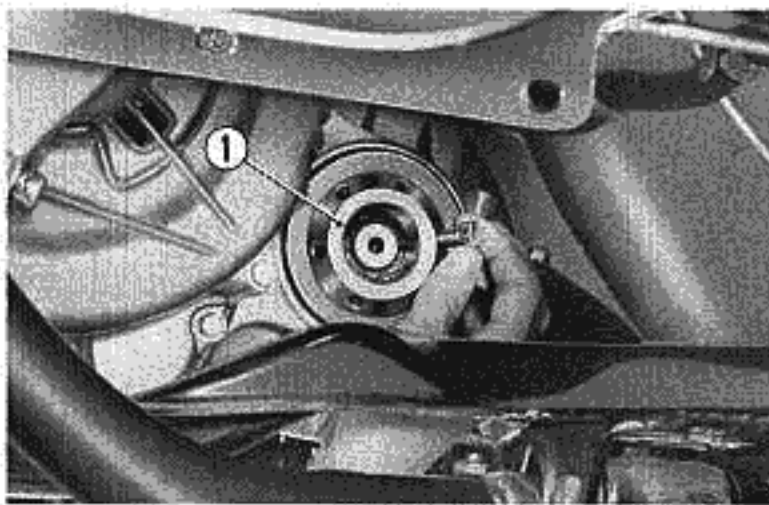

Fig. 7-4. ① Joint Flange
4. Remove the external circlip (22 mm) with a snap ring pliers and remove the joint flange by pulling it out with the bolt attached (Fig. 7-4).
6. Insert ① of the oil seal driver C into the side gear, and fit the external circlip (22 mm).
7. Thread part ② of the tool into part ③.